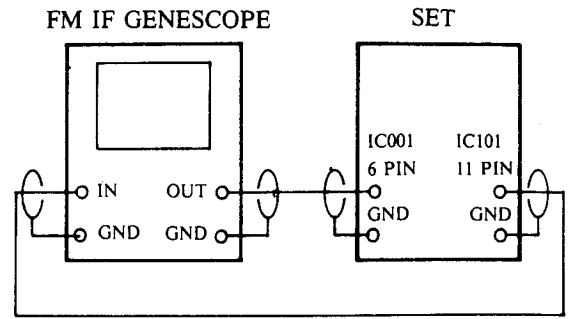

Fig. 3-6 FM, IF Adjustment
| 1    | FM IF  |                        |               | T001T102       | Maximum SCurve waveform(Upper waveformsymmetricity) | Connect a sweepgenerator toIC001 (6) Pin andIC101 (11) Pin(IF OUT).Refer to Fig. 3-6 |